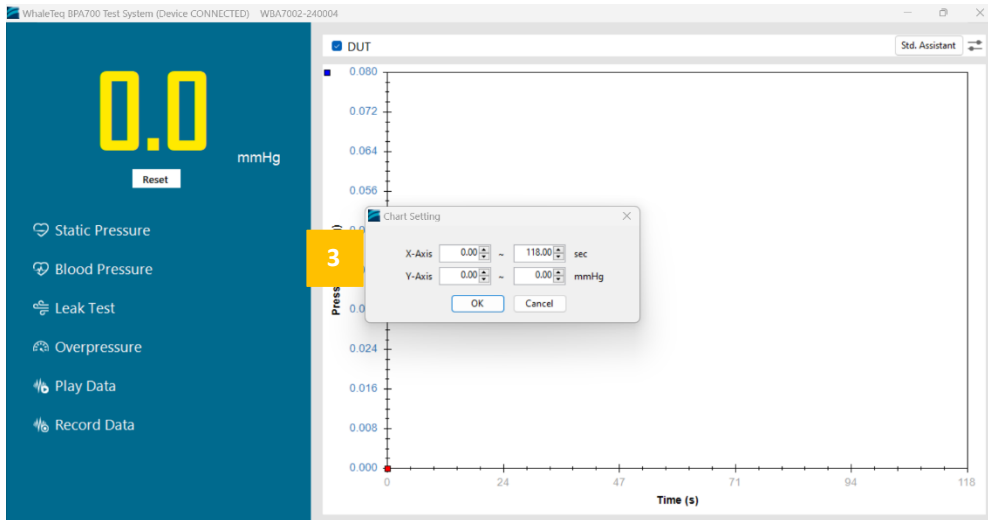

Figure 10: Setup Chart
- (1) Un-Zoom: cancel or revert a zoomed-in view, returning the graph to its original size.
- (2) Undo All Zoom/Pan: revert or reset the zoom level of the graph to its default or original state
- (3) Setup Chart: set X/Y axis value (See Figure 10: Setup Chart)
- (4) Save Image: Waveforms are saved to a PC or laptop as a jpg. file
- (5) Save Raw Data: save the graph as csv file to PC or laptop
- (6) Load Raw Data: load the graph saved from last time
- (7) Auto Scroll: Automatically scale down the proportion to display the entire pressure waveform
- (8) Reset Cursor: there are 4 cursors in total, the user can drag out the cursor from the point beside the graph, and see details of time- pressure relation